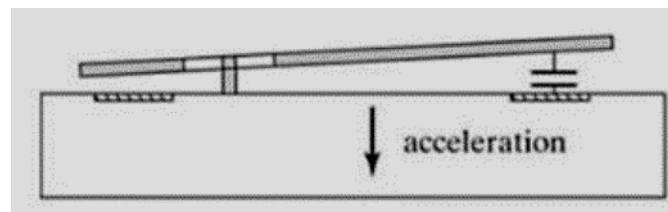

Figure 4.1
- [b] Using diagram, illustrate the complete process of powder metallurgy starting from the metal powder preparation until finished product is obtained. Justify why each stage in the process is crucial for good quality product and give TWO (2) examples of powder metallurgy products.
4. [a] Figure 4.1 shows the structure of MEMS devices.
- (ii) Explain TWO (2) possible root causes of MEMS structural imperfection shown below.